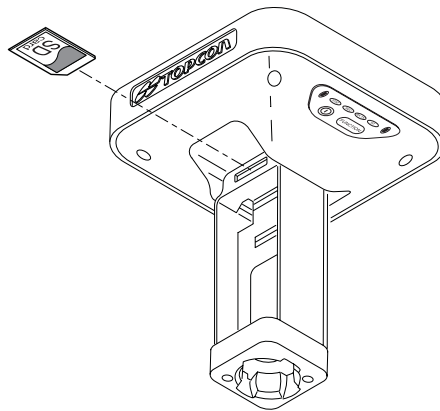

Figure 2-6. Install SD Card
**To install the SD card** (Figure 2-6):